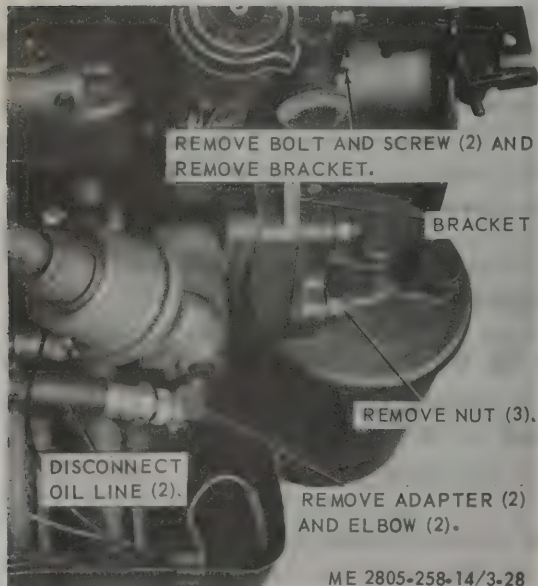

Figure 3-28. Oil filter, bracket, and lines, removal and installation.
(2) Refer to figure 3-28 and remove oil filter, bracket, and lines.
(1) Refer to figure 3-28 and install oil filter, bracket, and lines.
(2) Install top shroud (para 3-17).